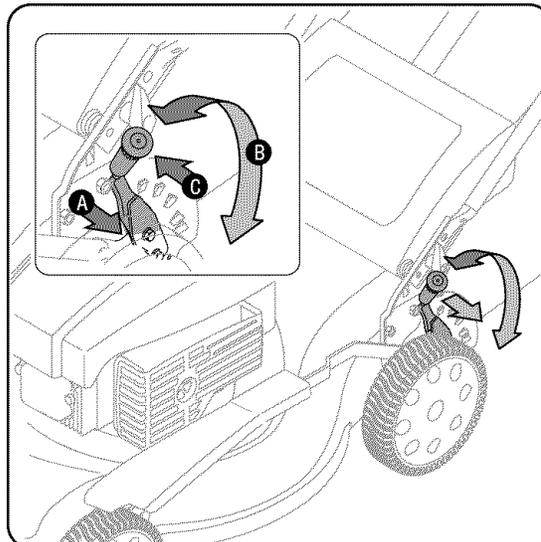

Figure 7
8. The cutting height adjustment lever is located above the rear left wheel. See Figure 7.